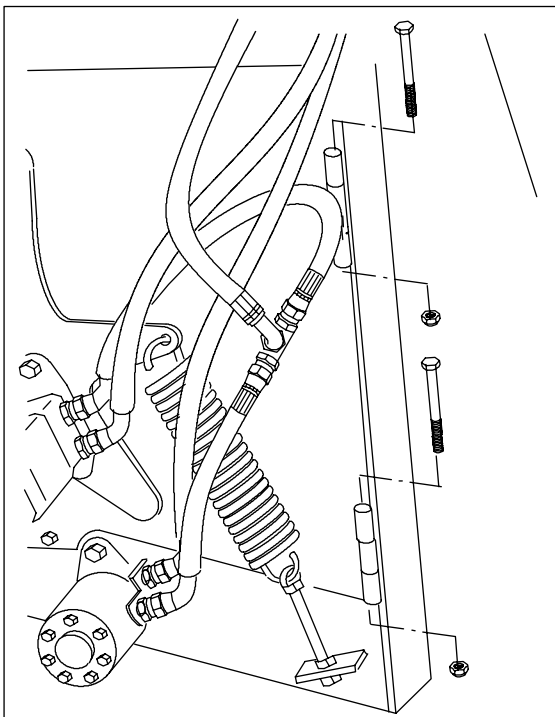

Fig. 6. Installing the hinge bolts
3. Attach the feed chute to the frame with two M10x160 bolts and lock nuts. Fig. 6